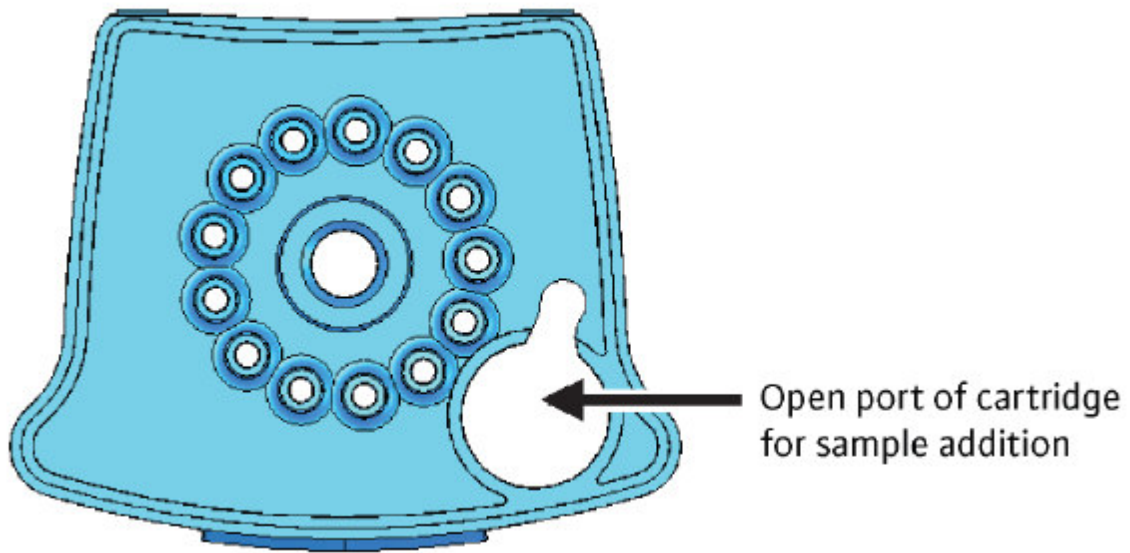

Figure 1. GeneXpert MTB/RIF cartridge (top view).
6.1.11 Gently add approximately 2mL of the homogenised sample to the sample hole in the labeled cartridge (figure 1).